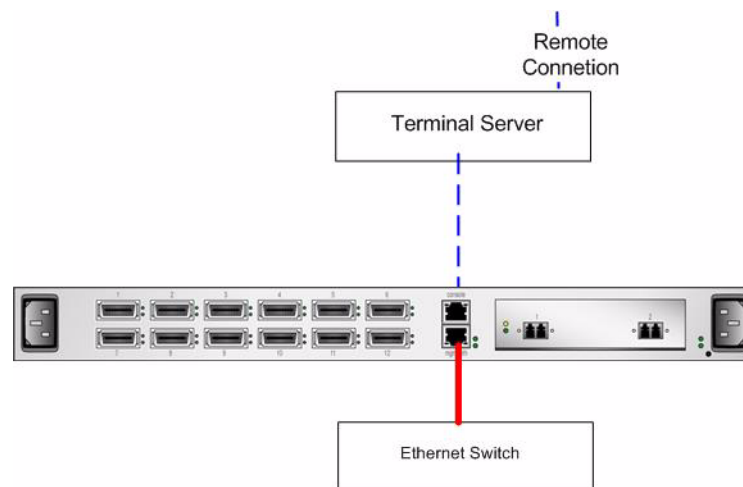

Figure 2-12: Recommended Management Configuration
1. Refer to Figure 2-12 for the recommended management port configuration.